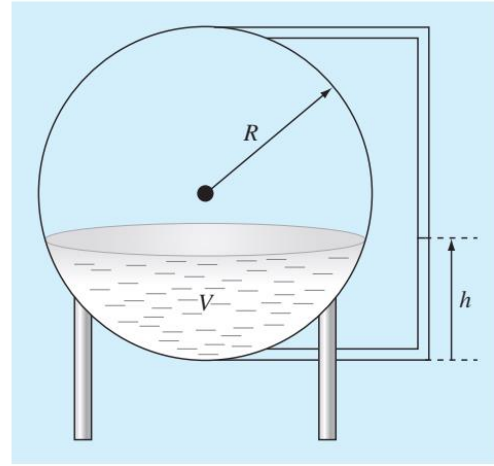

FIGURE P6.22
6.22 You are designing a spherical tank (Fig. P6.22) to hold water for a small village in a developing country. The volume of liquid it can hold can be computed as